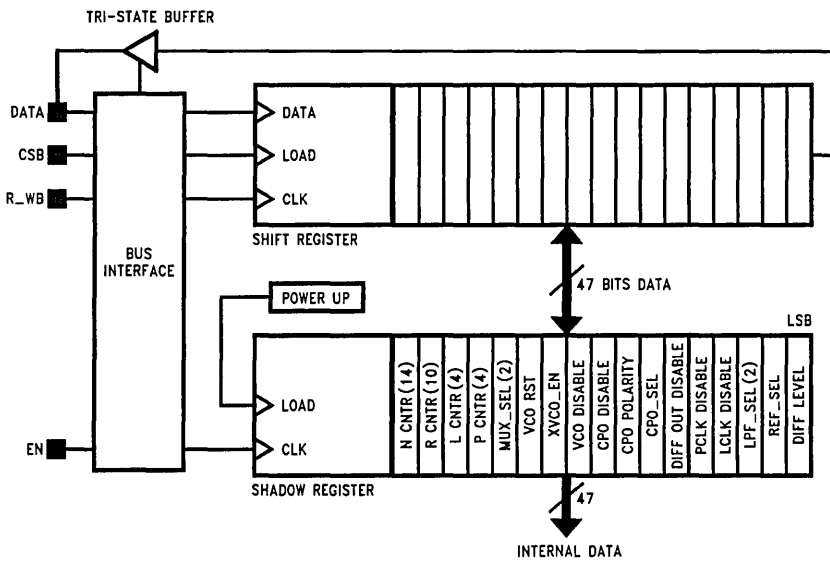

FIGURE 3-5. Control Register Architecture
- Figure 3-5 Control Register Architecture